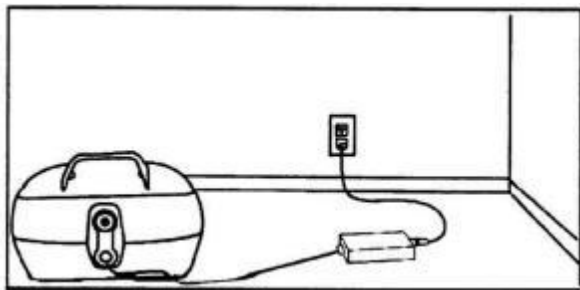

Figure 13. Charging The Batteries
1. Position your Travel Scooter or battery pack close to a standard electrical outlet. See figure 13 .